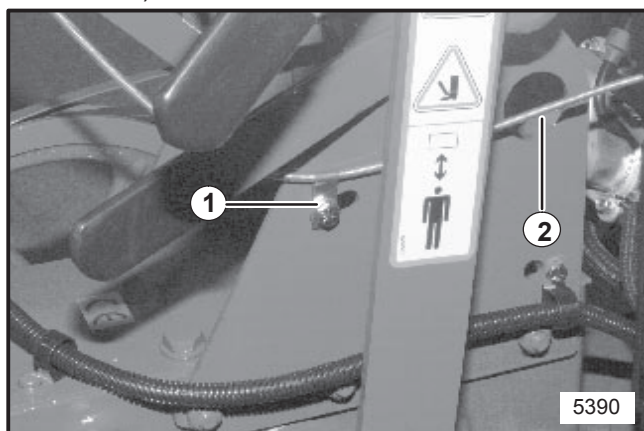

FIGURE 12
15. For Briggs engine route throttle cable to engine and secure with clamp and hardware as shown in Figure 12 (for Honda engines route cable to the inside of bracket).